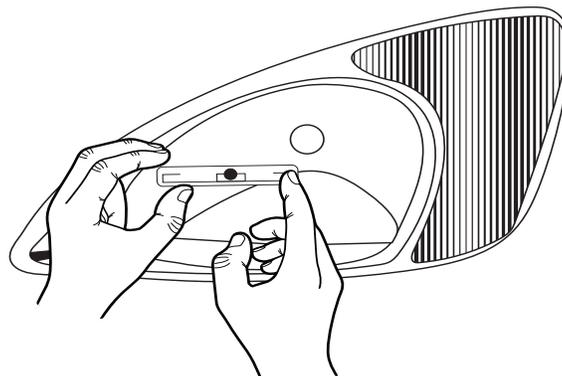

Figure 4 – Install tag on headlamp
3. Handling the tag by the edges, install it at the selected location (Figure 4).